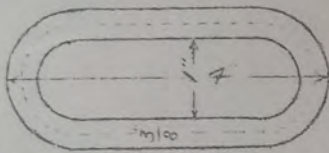

Fig. 1 - Measuring the length of iron necessary for link.
1. Measuring.- When the length of stock is given, as in this particular exercise, this operation is unnecessary. However, if the stock must be cut from a longer bar of iron, it is necessary to determine what length of iron is necessary to make a link of the required size. Let Fig. 1 represent the link to be made. An inspection of this figure shows that it consists of two semicircles, one at each end, and two straight pieces, one on each side. The
outside dimensions of the link are 4 " X $1\frac{3}{4}$ " and the stock is $3/8$ " round. We take all measurements along a center line, indicated by the broken line in Fig. 1. This line has a radius of $11/16$ " at the two ends and a length of $2\frac{1}{4}$ " along each of the two straight sides. The two semicircles make a complete circle with a diameter of $1\text{-}3/8$ ", and as the circumference of a circle equals 3,1416 times the diameter, the circumference of this circle along the middle